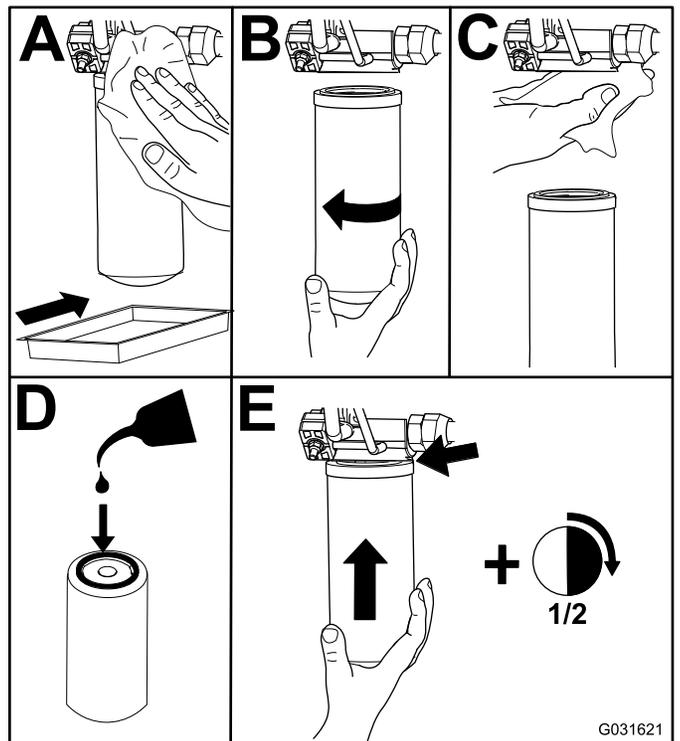

Figure 98
2. Replace the hydraulic filters (Figure 98).